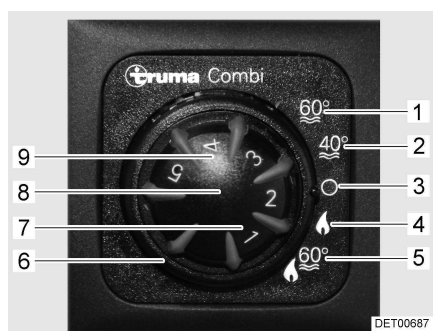

Fig. 80 Operating unit
- Set the operating mode using the rotary switch (Fig. 80,6).
In winter operation "Heater and production of hot water" (Fig. 80,5) the domestic water is automatically heated up when the heater is switched on. If the heater switches off after the required room temperature has been reached, the domestic water will continue to heat up until the set water temperature has been reached.
In the operating mode "Only heater" (Fig. 80,4) the heater can be operated with an empty domestic water container.
- Turn the temperature control knob (Fig. 80,8) on the operating unit to the desired heating level.
- Set rotary switch (Fig. 80,6) to winter operation "Only heater" (Fig. 80,4) or to winter operation "Heater and production of hot water" (Fig. 80,5).
The green indicator lamp (Fig. 80,7) is on.
- Turn the rotary switch (Fig. 80,6) to "O" (Fig. 80,3).
- Set the rotary switch (Fig. 80,6) on the operating unit (Fig. 80) to "Summer operation" (Fig. 80,1 or 2).
The yellow indicator lamp (Fig. 80,9) is illuminated during the heating up period. When the set water temperature is reached, the period of heating up is finished and the yellow indicator lamp fades.
In case of fault, the indicator lamp (Fig. 80,9) on the operating unit glows red (see section 15.7).
- Set the rotary switch (Fig. 80,6) on the operating unit (Fig. 80) to "O".